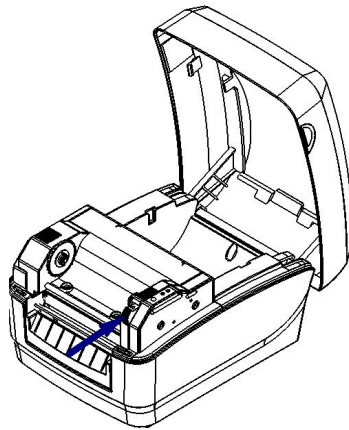

Figure 2.4.2
- 2) Press down the open up spanner according to the arrow in figure 2.4.2. After ribbon holder is lift, turn it at the angle shown as below.